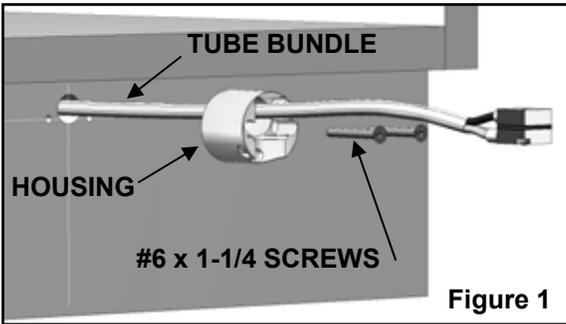

Figure 1
**STEP #1** - As in figure 1 draw a line on the cabinet toe kick vertically aligned with the center of the faucet/sink. (NOTE: this is recommended for both right and the left footed users — not a requirement).